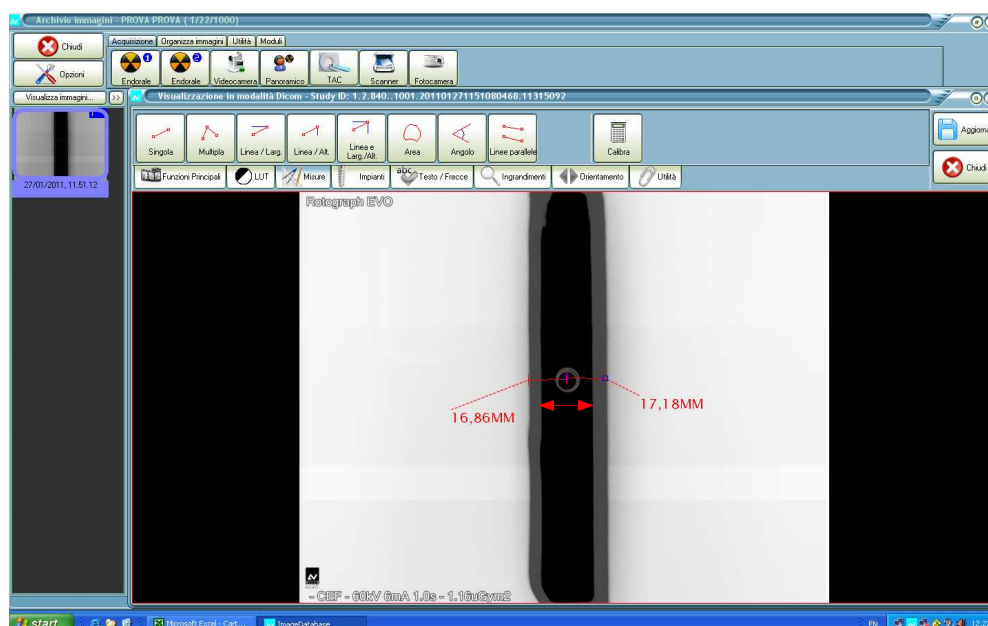

Figure 9-27
- 17.** Check on the image if the Ear Centering Circles are concentric (small circle inside the big circle – i.e. as shown in Figure 9-27).